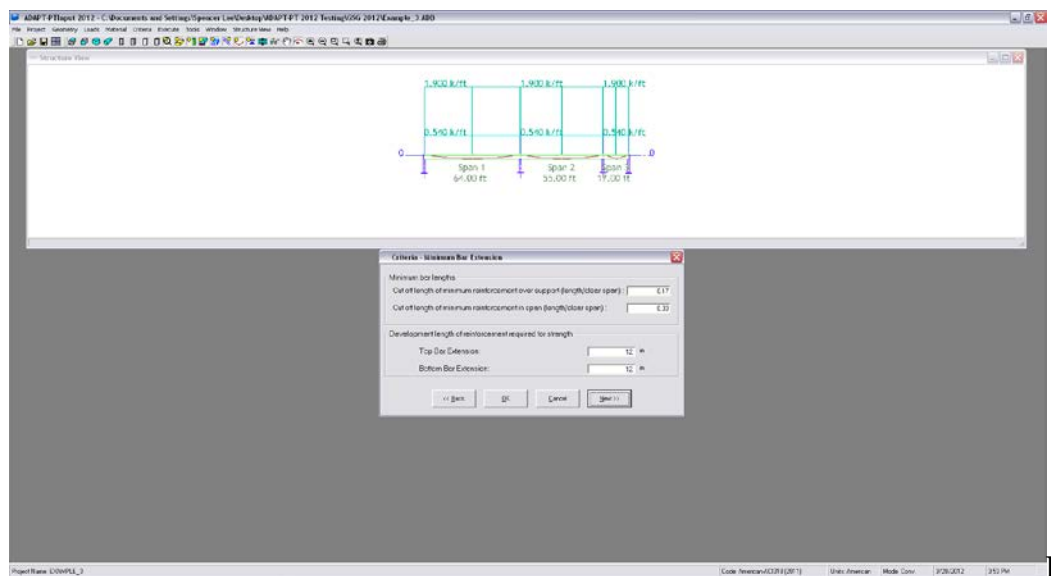

FIGURE 4.2-19
4.2.5.6 Specify Minimum Bar Length And Bar Extension Of Mild Steel Reinforcement (Fig. 4.2-19)